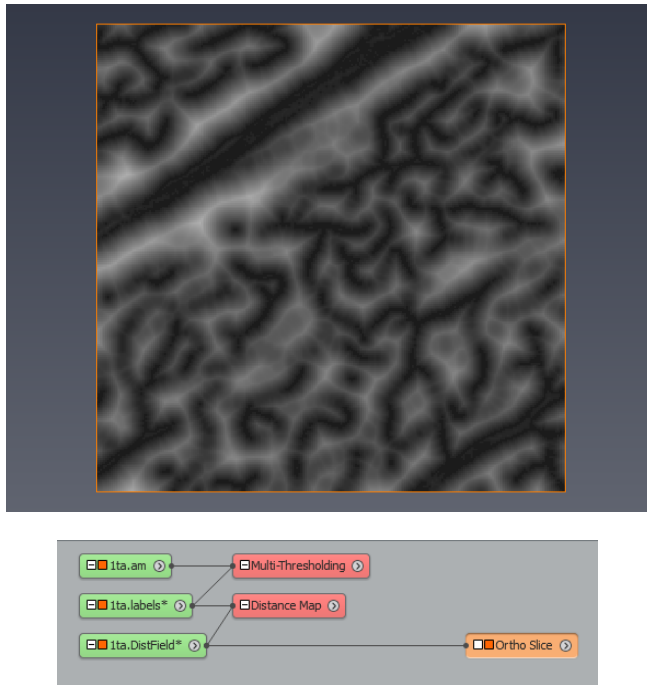

Figure 5.47: Visualization of the Distance Map and the Associated Project View
4. Attach an *Ortho Slice* module to the distance map, see Figure 5.47.